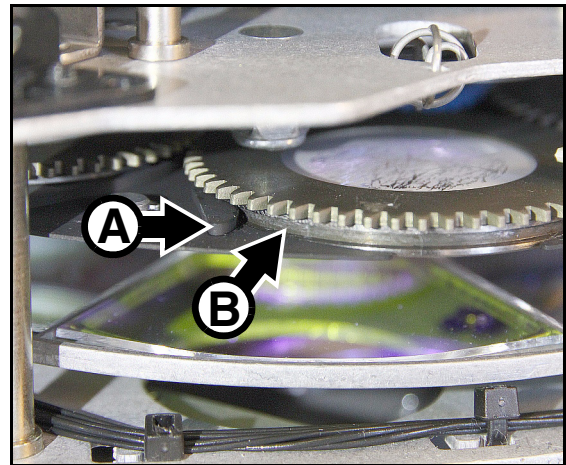

Figure 19: Reinstalling a gobo
13. See Figure 19. Push the goboholder back into its clip so that the jaws **A** of the clip engage in the groove **B** around the goboholder and the magnet lines up with your reference point. Rotate the goboholder with a finger to check that it is correctly held in the clip and that the goboholder teeth mesh correctly in the teeth of the actuation cog in the center of the gobo wheel.